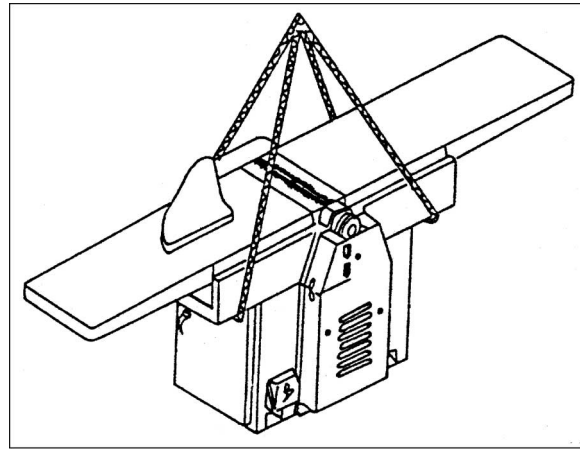

Figure 1
3. Raise the jointer off the skid with lifting straps. The straps should be suitable to lift 762 pounds of weight, and should be placed under the base casting as shown in Figure 1. Do not lift the jointer under the infeed and outfeed tables.